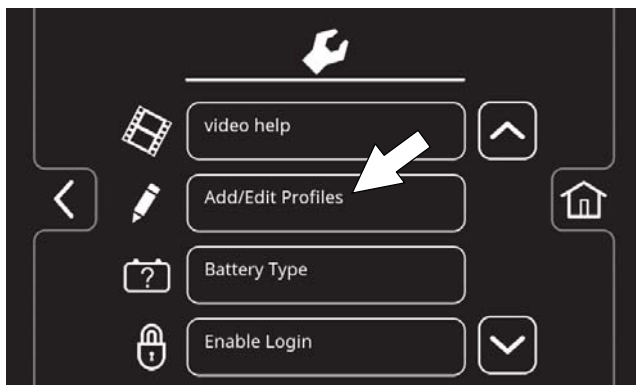

FIG. 182
2. Press the Add/Edit Profiles button (Figure 182).